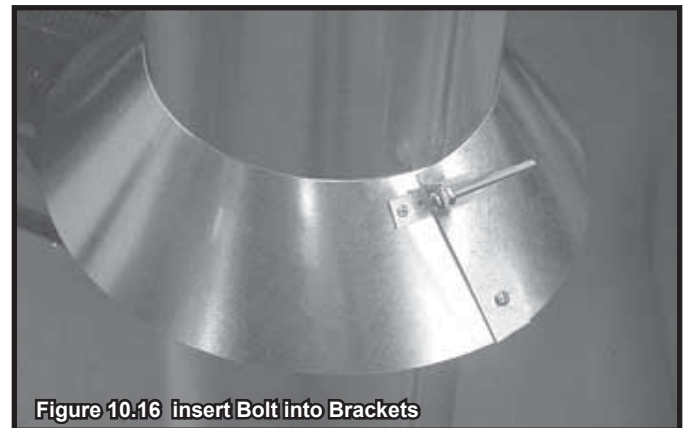

**Figure 10.15**
- Slide the roof flashing over the pipe sections extending through the roof as shown in Figure 10.15.
- Caulk the perimeter of the flashing where it contacts the roof surface. See Figure 10.15.